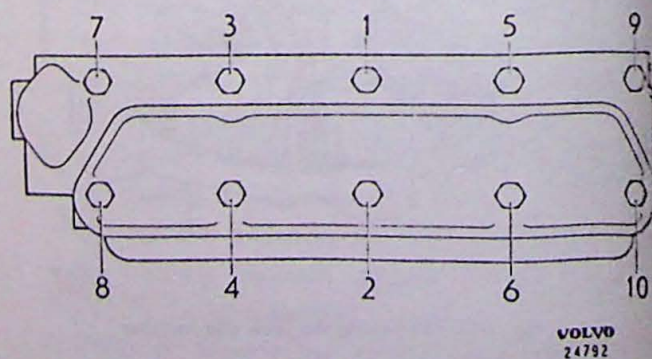
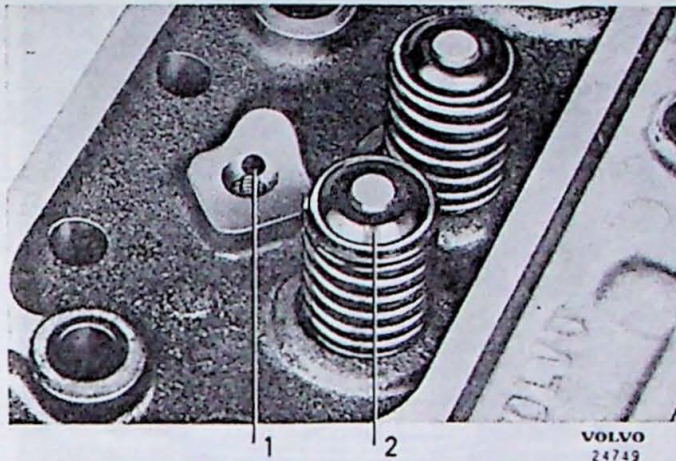

Fig. 1-88. The correct order to tighten the cylinder head bolts
Fig. 1-91. Cylinder head
The cylinder head bolts must be tightened in a special order as shown in Fig. 1-88 in order to avoid unnecessary stresses. Check that the oil hole (1, Fig. 1-91) for the lubrication of the rocker arms is not blocked. The support bearing (5, Fig. 1-92) should be lubricated before fitting with heat-resistant bearing grease. The bearing is maintained in position by a lock ring (4).